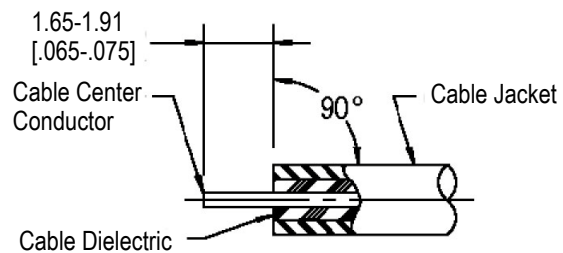

Figure 2
1. Strip the cable within the dimension given in Figure 2.